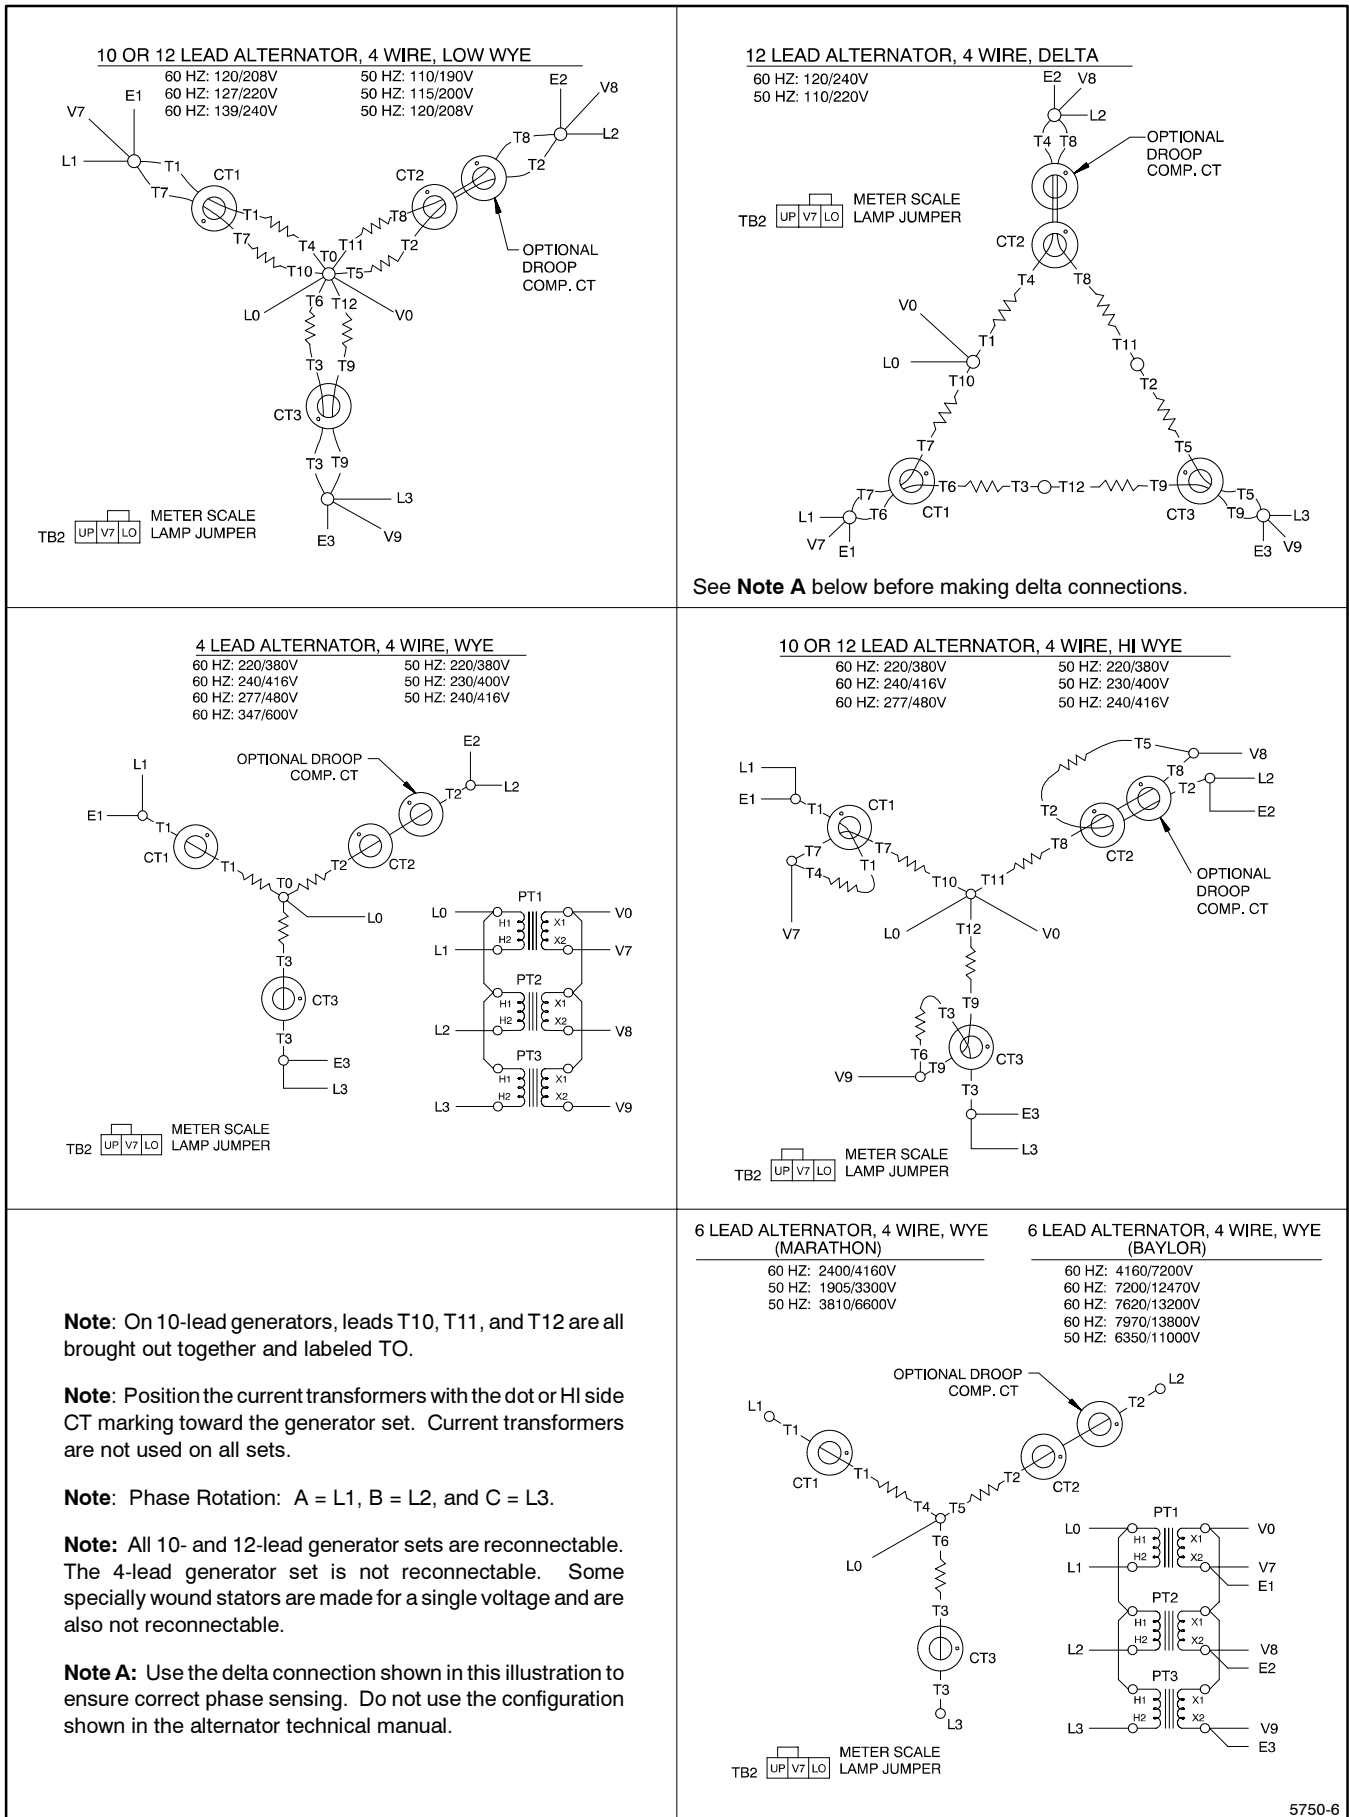

Figure 3 Current Transformer Connections
8. Place generator output leads through current transformers (1 turn) as shown in Figure 3.
Note: Safeguard terminal strip may have wires connected in a different sequence than shown in Figure 3. Leads connected to top terminals have identification marked. Make connections based on terminal identification (not position).